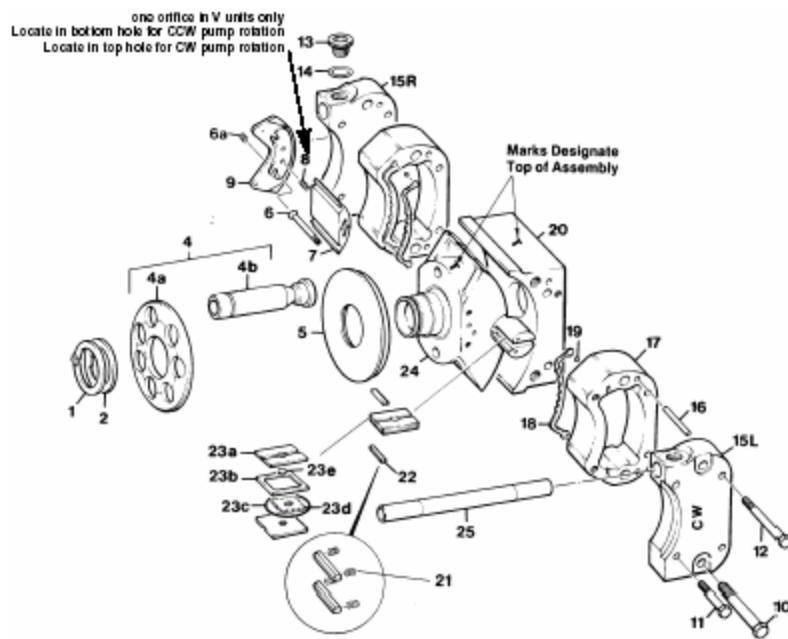

Figure 3
### PARTS LIST FOR FIGURE 3 rocker cam, pistons and retainer
### CAM/CRADLE ASSEMBLIES items 6 through 24, figure 3
### PISTON/SHOE/RETAINER ASSEMBLIES item 4 figure 3
See Figure 3. Position the cradle (20) on a clean flat surface with the large flat area down.
Install assembled cartridge in slot in cam as indicated in figure 3. Repeat on opposite side of cam.
For "P" and "D" units, install two orifice screws (8) in the servo stem (7). For "V" units, install one orifice, as indicated in Figure 3.